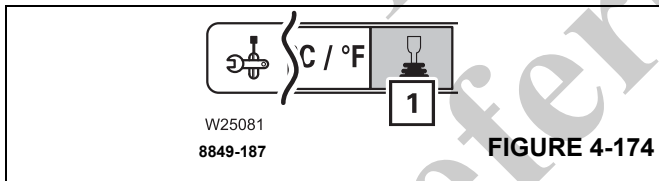

FIGURE 4-174
Open the Settings (1), (Figure 4-174) menu.